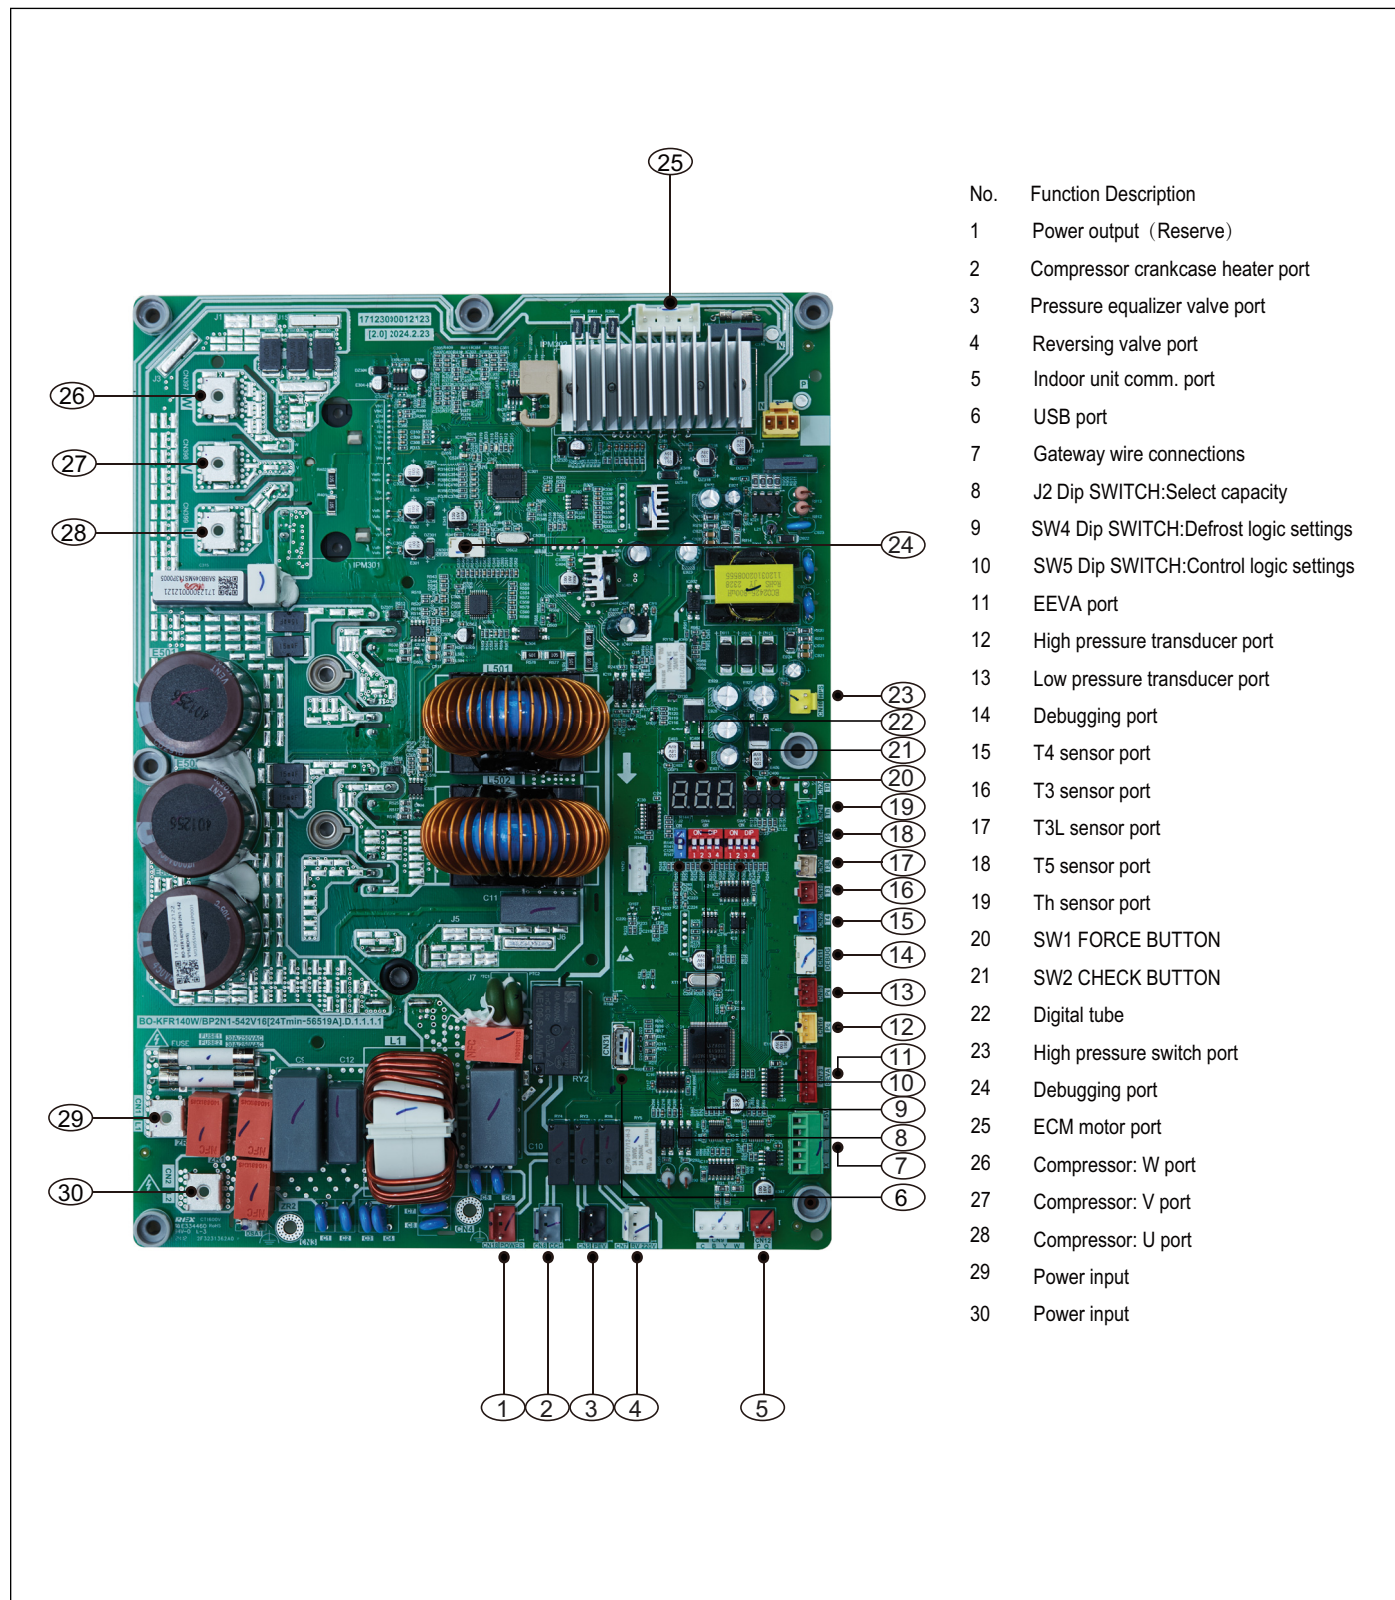

Figure 64
- To display system parameters, press the "Check" button to index through the series of parameters available. The first time you press the "Check" button, it will display the sequence, and after 1 second it will display the value of the parameter. If you press the "Check" button again, it will display the next sequence. Refer to Figure 63 and Figure 64 for check button location on the control board.